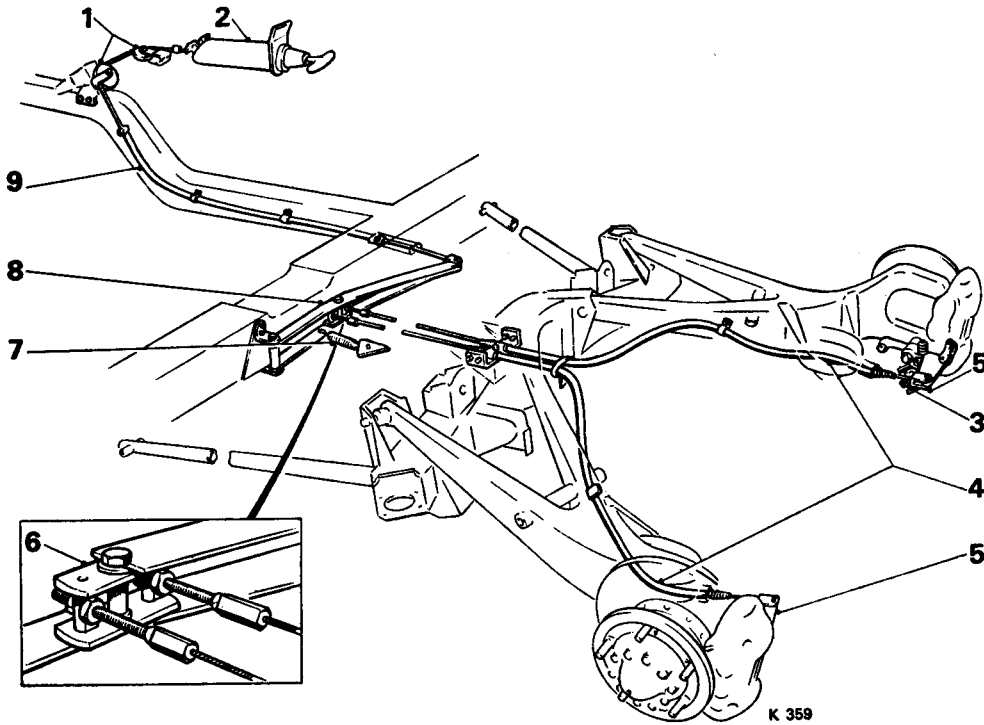

FIG. G59 HAND BRAKE LINKAGE—EARLY R.H.D. CARS
Since the introduction of the Rolls-Royce Silver Shadow and Bentley T Series car, two types of hand brake cable arrangement have been incorporated on early and later right-hand and left-hand drive cars; these are fully illustrated in *Figures G59 to G62 inclusive*.
3. Take up any excessive slackness in the cables, using the adjusting nuts and lock-nuts provided on the ends of the two rear cables (see Figs. G59 to G62 inclusive).